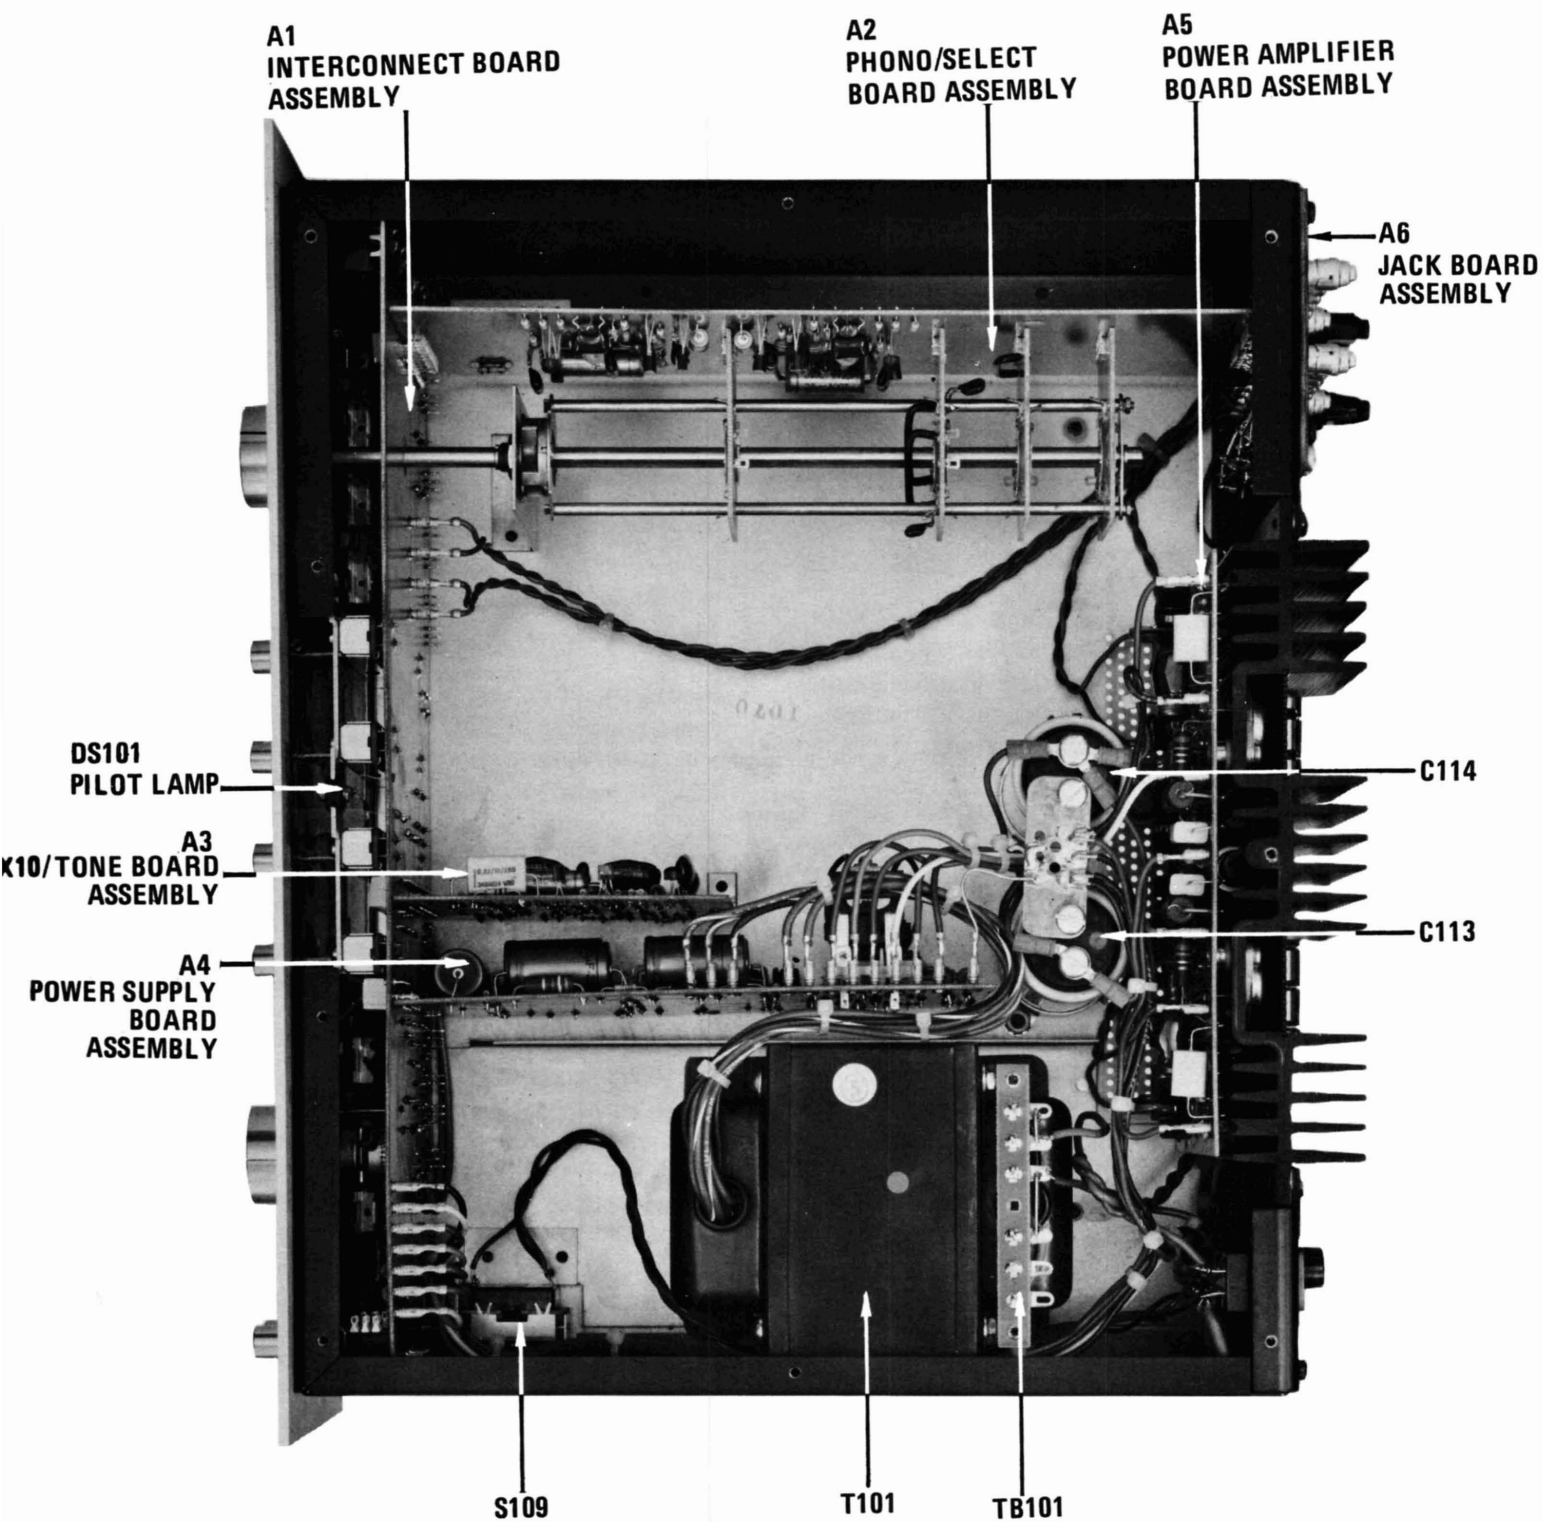

Figure 9. Model 1120 Interior View
- Remove the four (4) #10-32 x 7/16 screws (P/N 761-0712-000), each screw is equipped with a #10 split-spring lockwasher (P/N 671-6572-000) and #10 flat washer (P/N 176-1007-000).
- Locate TB101, the terminal strip located on the power transformer half-shell facing the rear panel, which terminates the power transformer primary wires (see Figure 9).